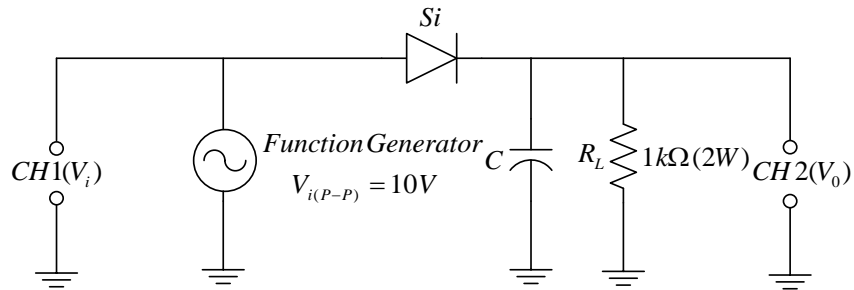

Fig 3.3 Half wave rectifier with capacitor filter
6. Now connect the circuit as shown in Fig 3.3.
8. After connecting certain value of capacitor C in the practical circuit of Figure 3.3, now measure the average voltage of output signal